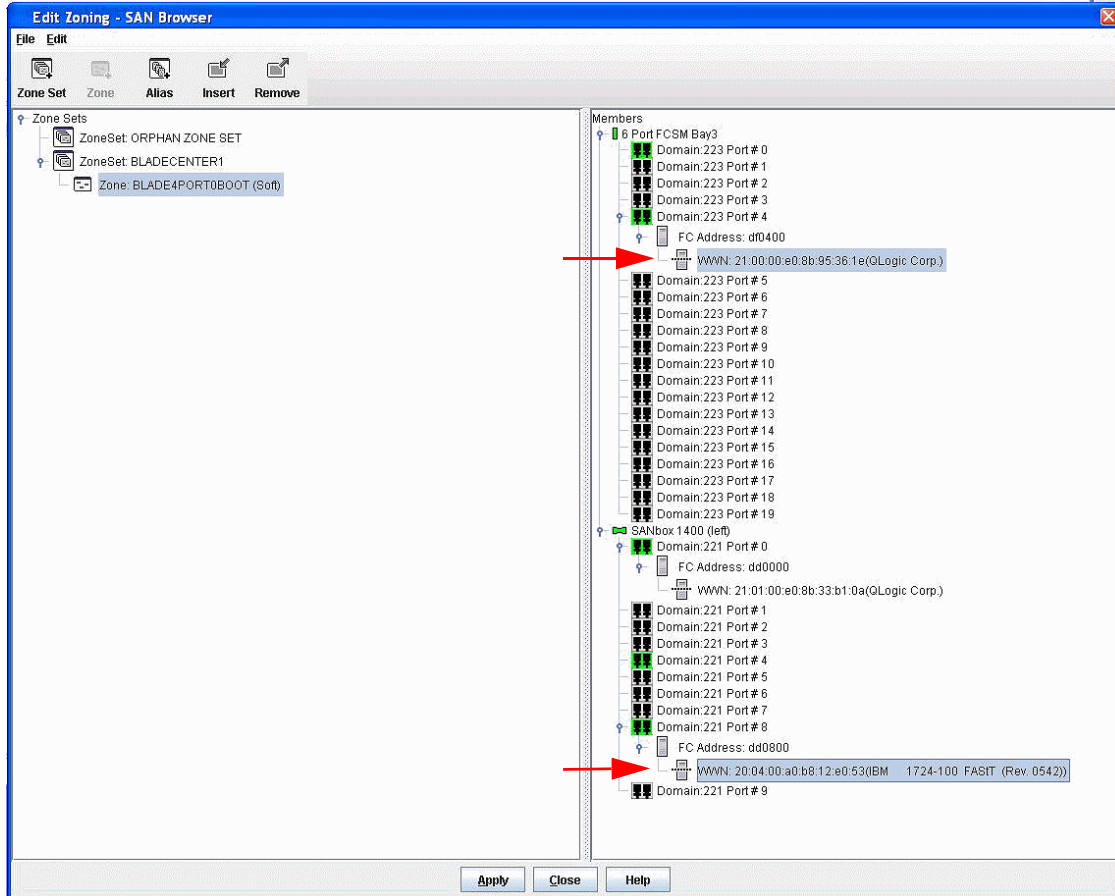
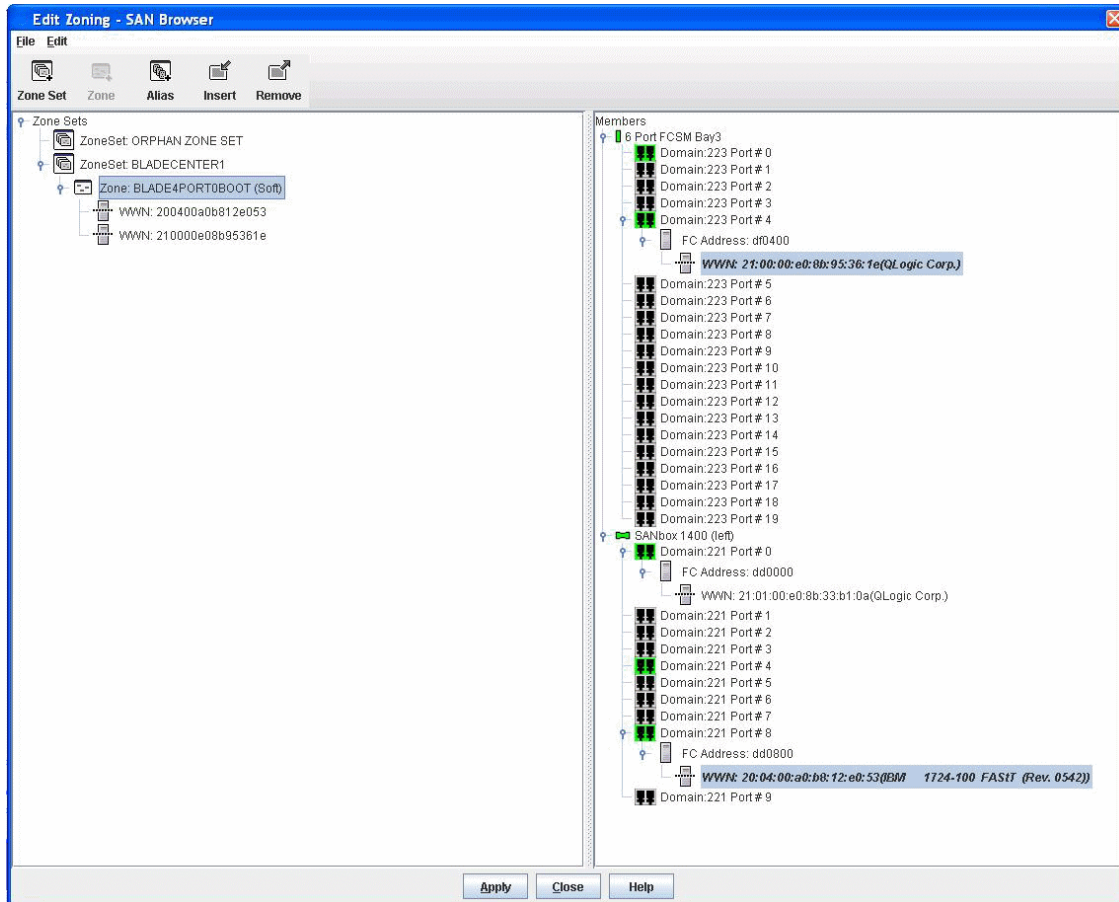

Figure 9-24 Edit Zoning - SAN Browser window
Figure 9-25 Edit Zoning - SAN Browser window
11. Hold Ctrl and select the devices meant for the zone with the left mouse button. In our example, we selected the FCSM WWN: 21:00:00:e0:8b:95:36:1e (QLogic Corp.) and the storage path WWN: 20:04:00:a0:b8:12:e0:53 (IBM 1724-100 FASiT (Rev. 0542)) (Figure 9-24). Continue holding down the mouse button and drag the members to the zone. You will then see a window similar to Figure 9-25 on page 299.